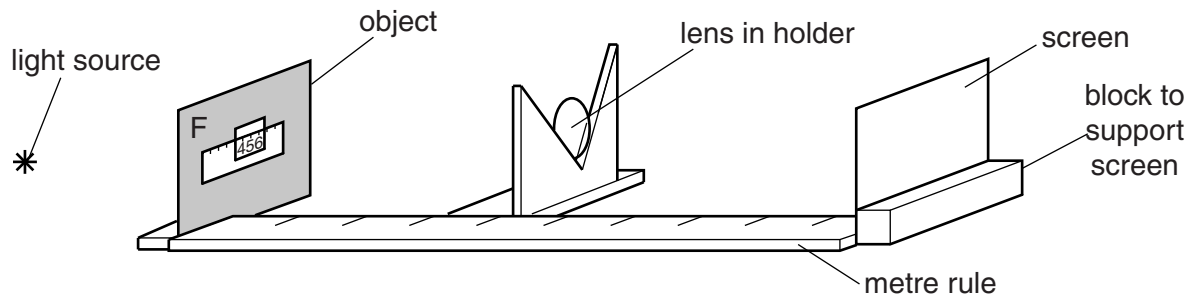

Fig. 2.2
5. The centre of the object, the light source and the centre of the lens when it is supported in the holder should all be at the same height above the bench. The **candidate** will set up the arrangement shown in Fig. 2.2.